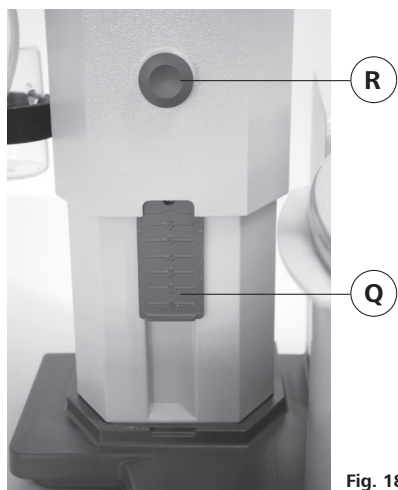

Fig. 18
- ☞ To adjust the stop element (Q), press the centre button (R) on the front of the lift (Fig. 18).